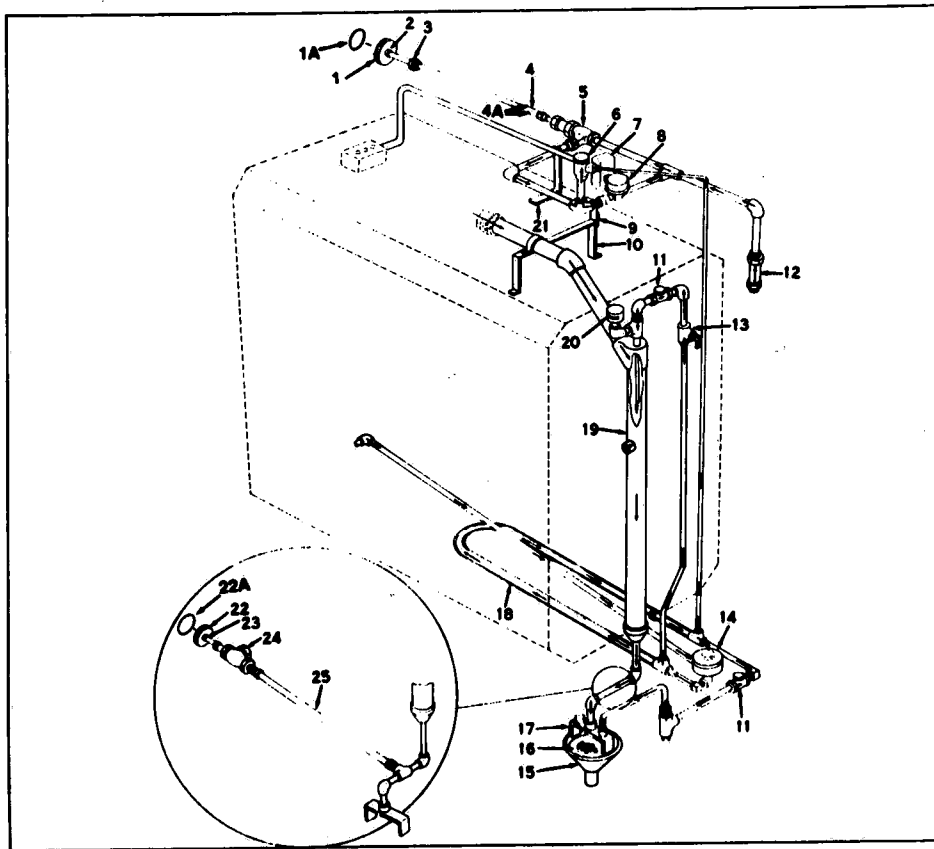

Figure 15. Piping Diagram, Condenser Exhaust for Single Door Sterilizers
- a. Unscrew and remove the bonnet assembly (1).
- b. Remove the friction ring (2) and air valve seat (3).
#### OVERHAUL OF SOLENOID VALVE (See item 8 figure 15 and item 7 figure 17.)
Individual components in these lists are keyed to figures in this manual. Thus 15-3 in the parts list refers to Rem 3 in figure 15.